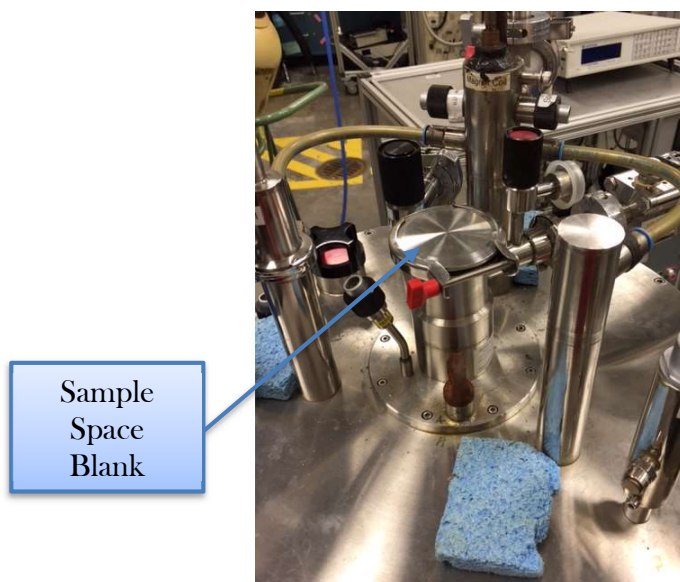

Figure 11
- 1.16 Place KF50 blank over sample space and tighten clamp (Figure 11).